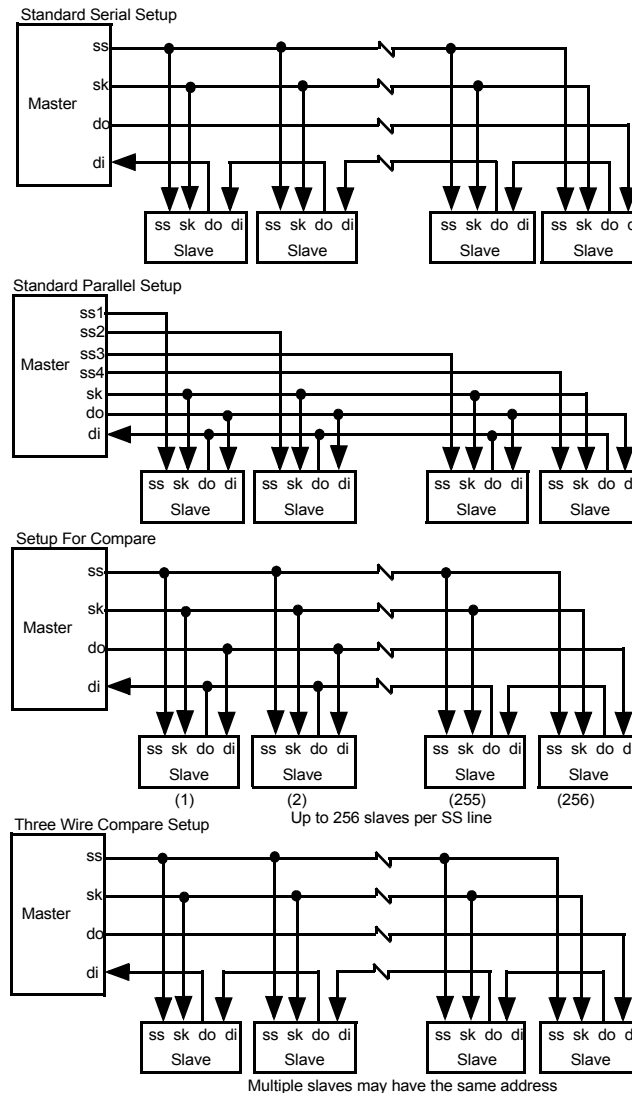

Figure 117. SPI System Configuration
The SPI is used in one of two modes: either as system slave, or as system master. Several of the possible system configurations are illustrated in Figure 117 on page 132. In slave mode, data transfer starts when the slave select (SS) pin goes active. Data is transferred into the slave's SPI Shift Register through the DI pin, which has the same address as the RxBUF Register. After a byte of data has been received by the SPI Shift Register, a Receive Character Available (RCA/IRQ3) flag and interrupt is generated. The next byte of data is received at this time. The RxBUF Register must be cleared, or a Receive Character Overrun (RxCharOverrun) flag is set in the SCON Register, and the data in the RxBUF Register is overwritten. When the communication between the master and slave is complete, the SS goes inactive. When the SPI is activated as a slave, it operates in all system modes: STOP, HALT, and RUN.